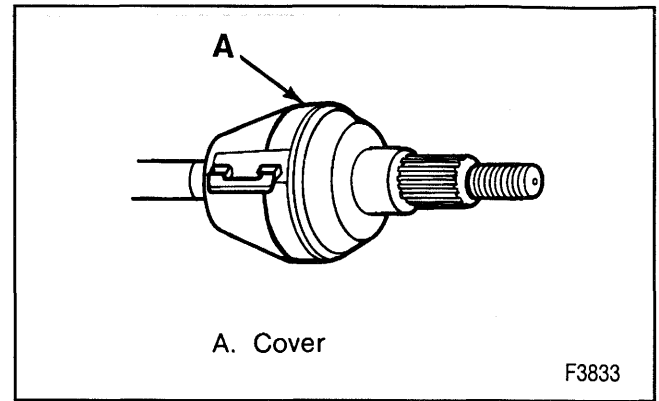

Figure 36—Drive Axle Cover Installed
- Install a cover on the axle joint (132) (figure 36).